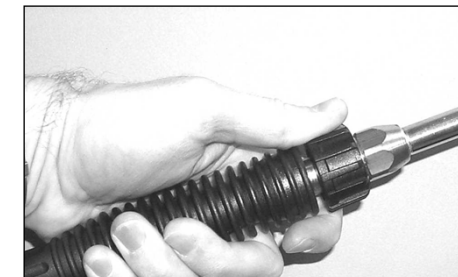

Figure 9 - Attach lance to gun
9. Attach the lance with nozzle to the gun (See Figure 9).